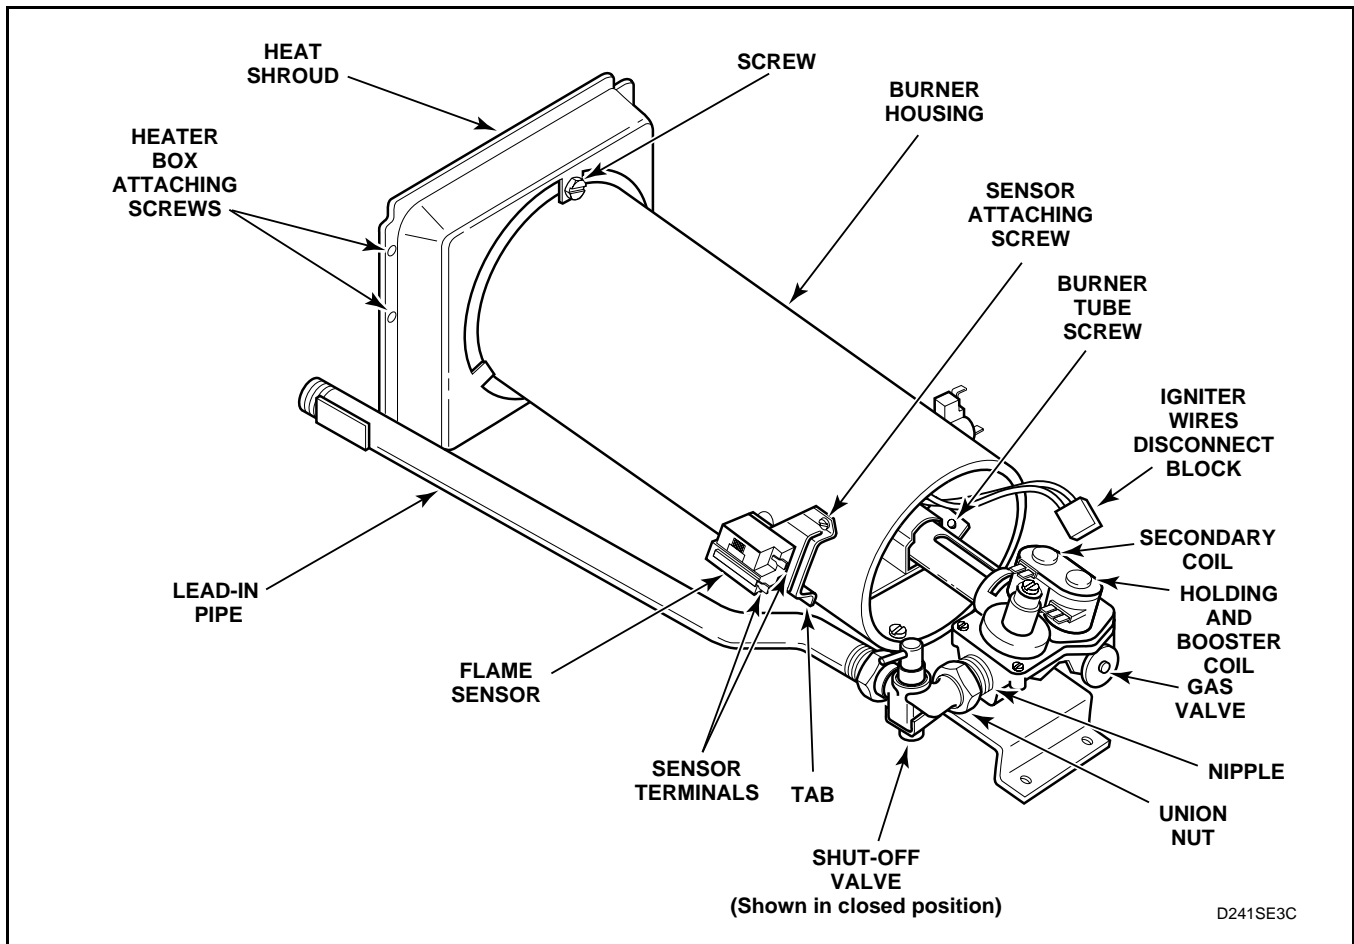

Figure 13
- (4.) Disconnect igniter wires at disconnect blocks, sensor wires from flame sensor terminals, and wires from gas valve coils at the quick disconnect blocks. See *Figure 13*.
- (5.) Disconnect gas shut-off valve from gas valve at the union nut. See *Figure 13*.
- (6.) Remove three screws holding valve and mounting bracket to base. See *Figure 13*.
- (7.) Lift gas valve and mounting bracket from base. See *Figure 13*.
- (2.) Gently move burner tube toward rear of dryer to disengage tab from slot on left side of burner housing. See *Figure 13*.
- (3.) Remove wires from flame sensor terminals. See *Figure 13*.
- (4.) Remove screw holding flame sensor to burner housing. See *Figure 13*.
- c. Disconnect igniter wires at disconnect blocks, sensor wires from flame sensor terminals, and wires from gas valve coils at the quick disconnect blocks. See *Figure 13*.
- e. Gently move burner tube toward rear of dryer to disengage tab from slot on left side of burner housing. See *Figure 13*.
- h. Remove screw holding burner housing to heat shroud. See *Figure 13*.